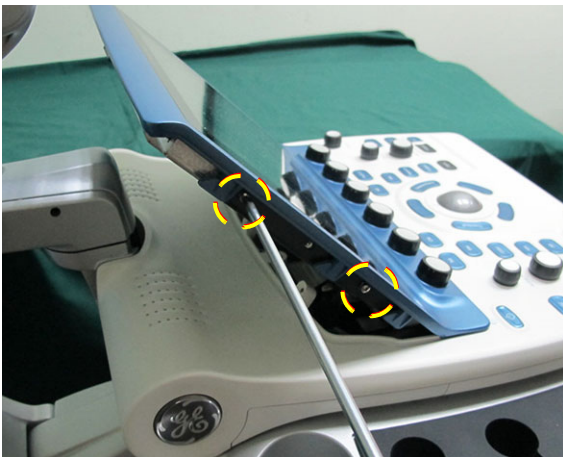

Figure 8-68 Removing the Touch Screen Securing Screws
- 3) Remove the 2 securing screws on both the *left* and *right* sides of the Touch Screen - Figure 8-68.
- 3.) Using two hands, position the base of the Touch Screen on the Touch Screen chassis, placing the base in the grooved channel and aligning the 2 screw securing holes on each side - Figure 8-68.
- 8.) Fasten the 4 screws to secure the Touch Screen to the chassis - Figure 8-68.